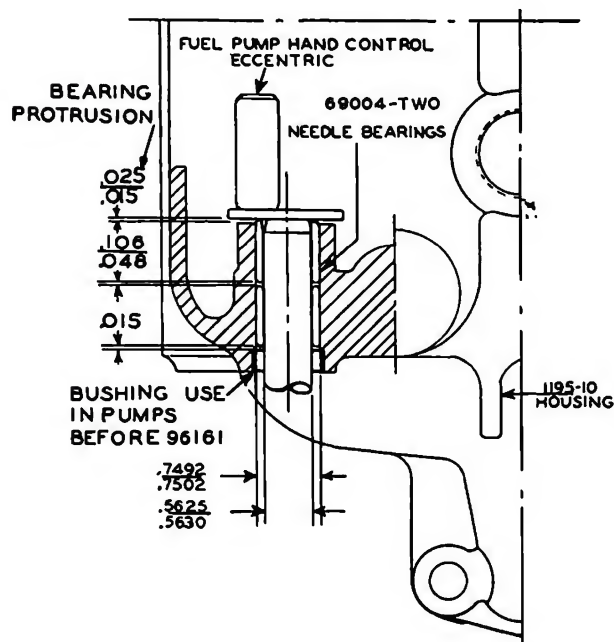

Fig. 5-111. Hand Control Eccentric Needle Bearings
2. Use ST-142 driving mandrel and spacer to install two needle bearings with smooth end up as shown in the sketch, Fig. 5-111.
3. Fuel pumps before Serial No. 96161 should have a 70535 bushing pressed into the housing to the bottom of the counterbore. New housings are not counterbored. Fig. 5-111.